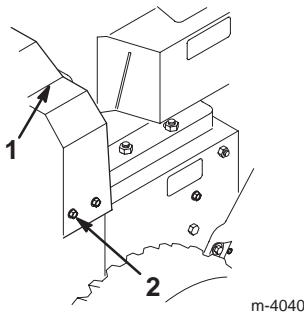

Figure 24
3. Remove the 3 bolts that hold the belt cover in place and set the cover aside (Fig. 24).